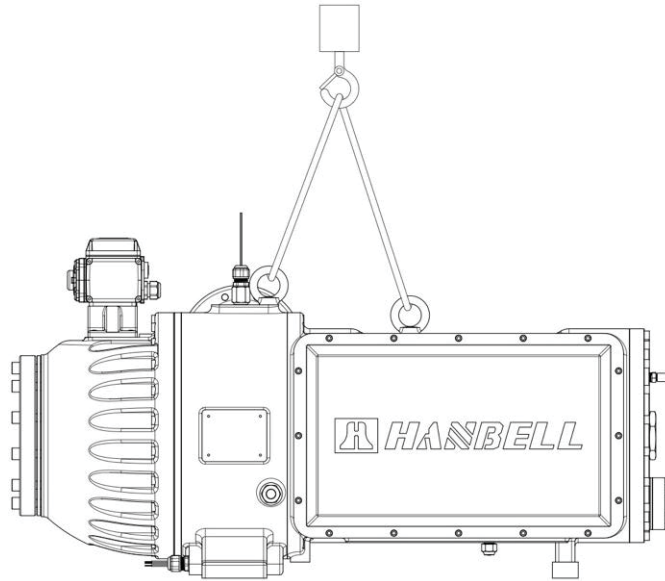

Figure 7-1 Lifting compressor
- When lifting compressor, it is recommended to use steel chain or cable as Figure 7.1, or other safety ropes with loading capacity 2,500kg.